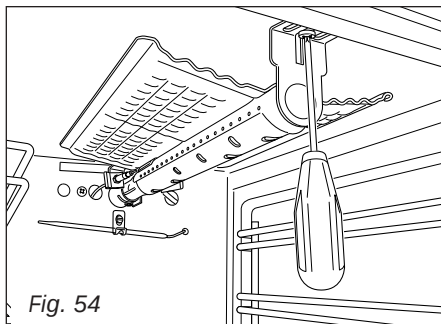

Fig. 54
- Remove the burner by unscrewing the front screw (fig. 54). Gently suspend the burner as shown in figure 55. Be careful not to damage the wire of the electric ignition and the probe of the safety valve.